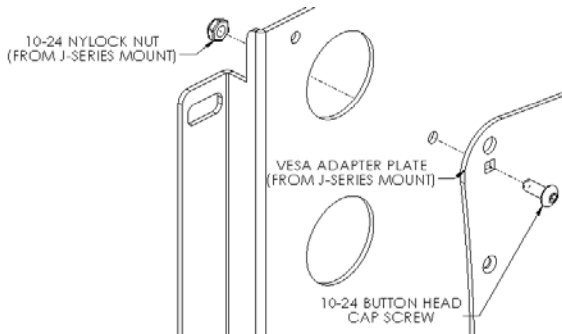
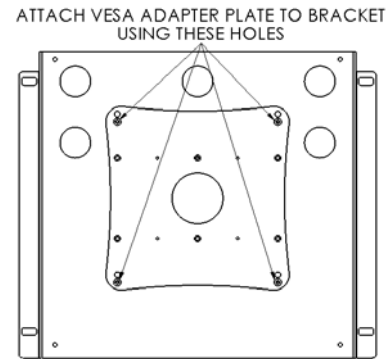

Figure 4
Figure 5
- Using the 10-24 button head cap screws along with the 10-24 Nylock nuts (provided with J-Series mount), attach VESA interface from J-Series mount to MSB bracket (see Figure 4 and Figure 5).